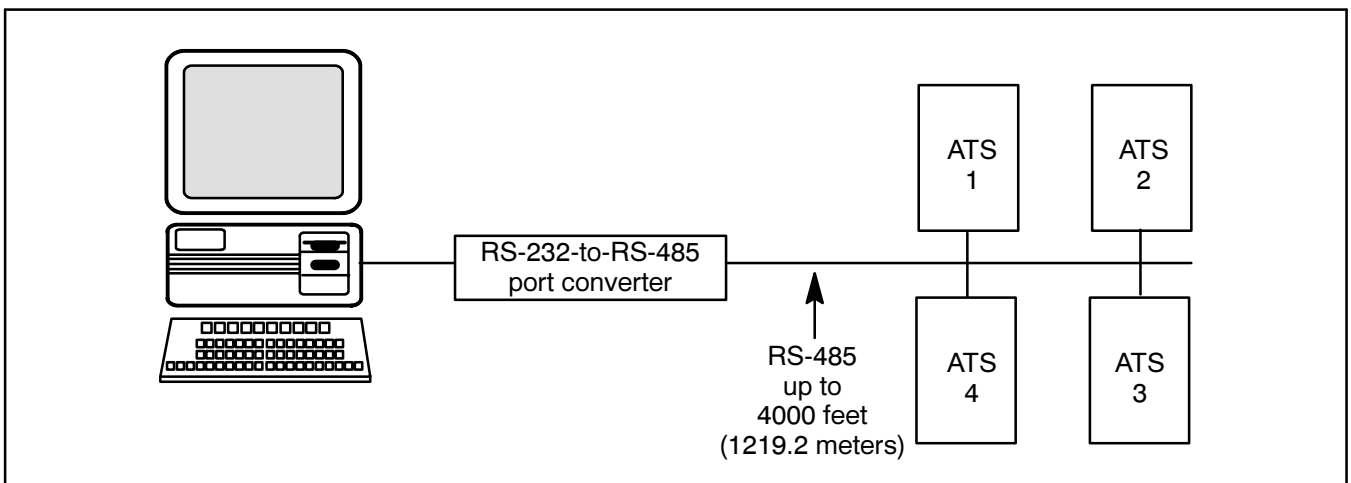

Figure 6-4. Local Area Network
- transfer switch to a single computer. See Figure 6-4.